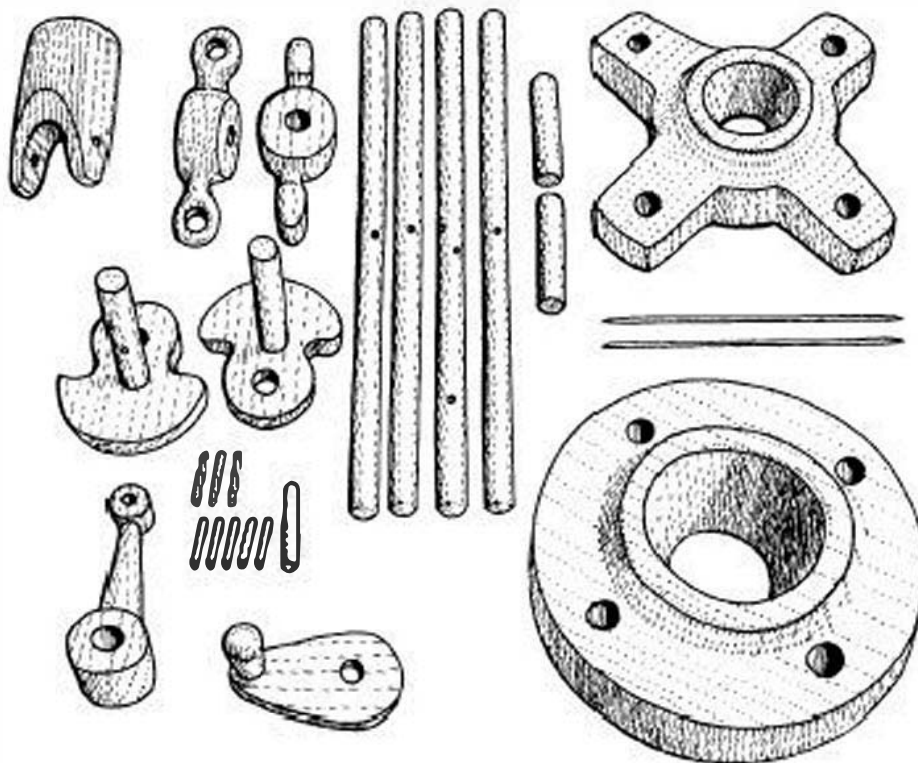

FIGURE 4-20
- 1** When you have before you all the component parts that make up the project (Fig 4-20), then comes the difficult task of putting the machine together.